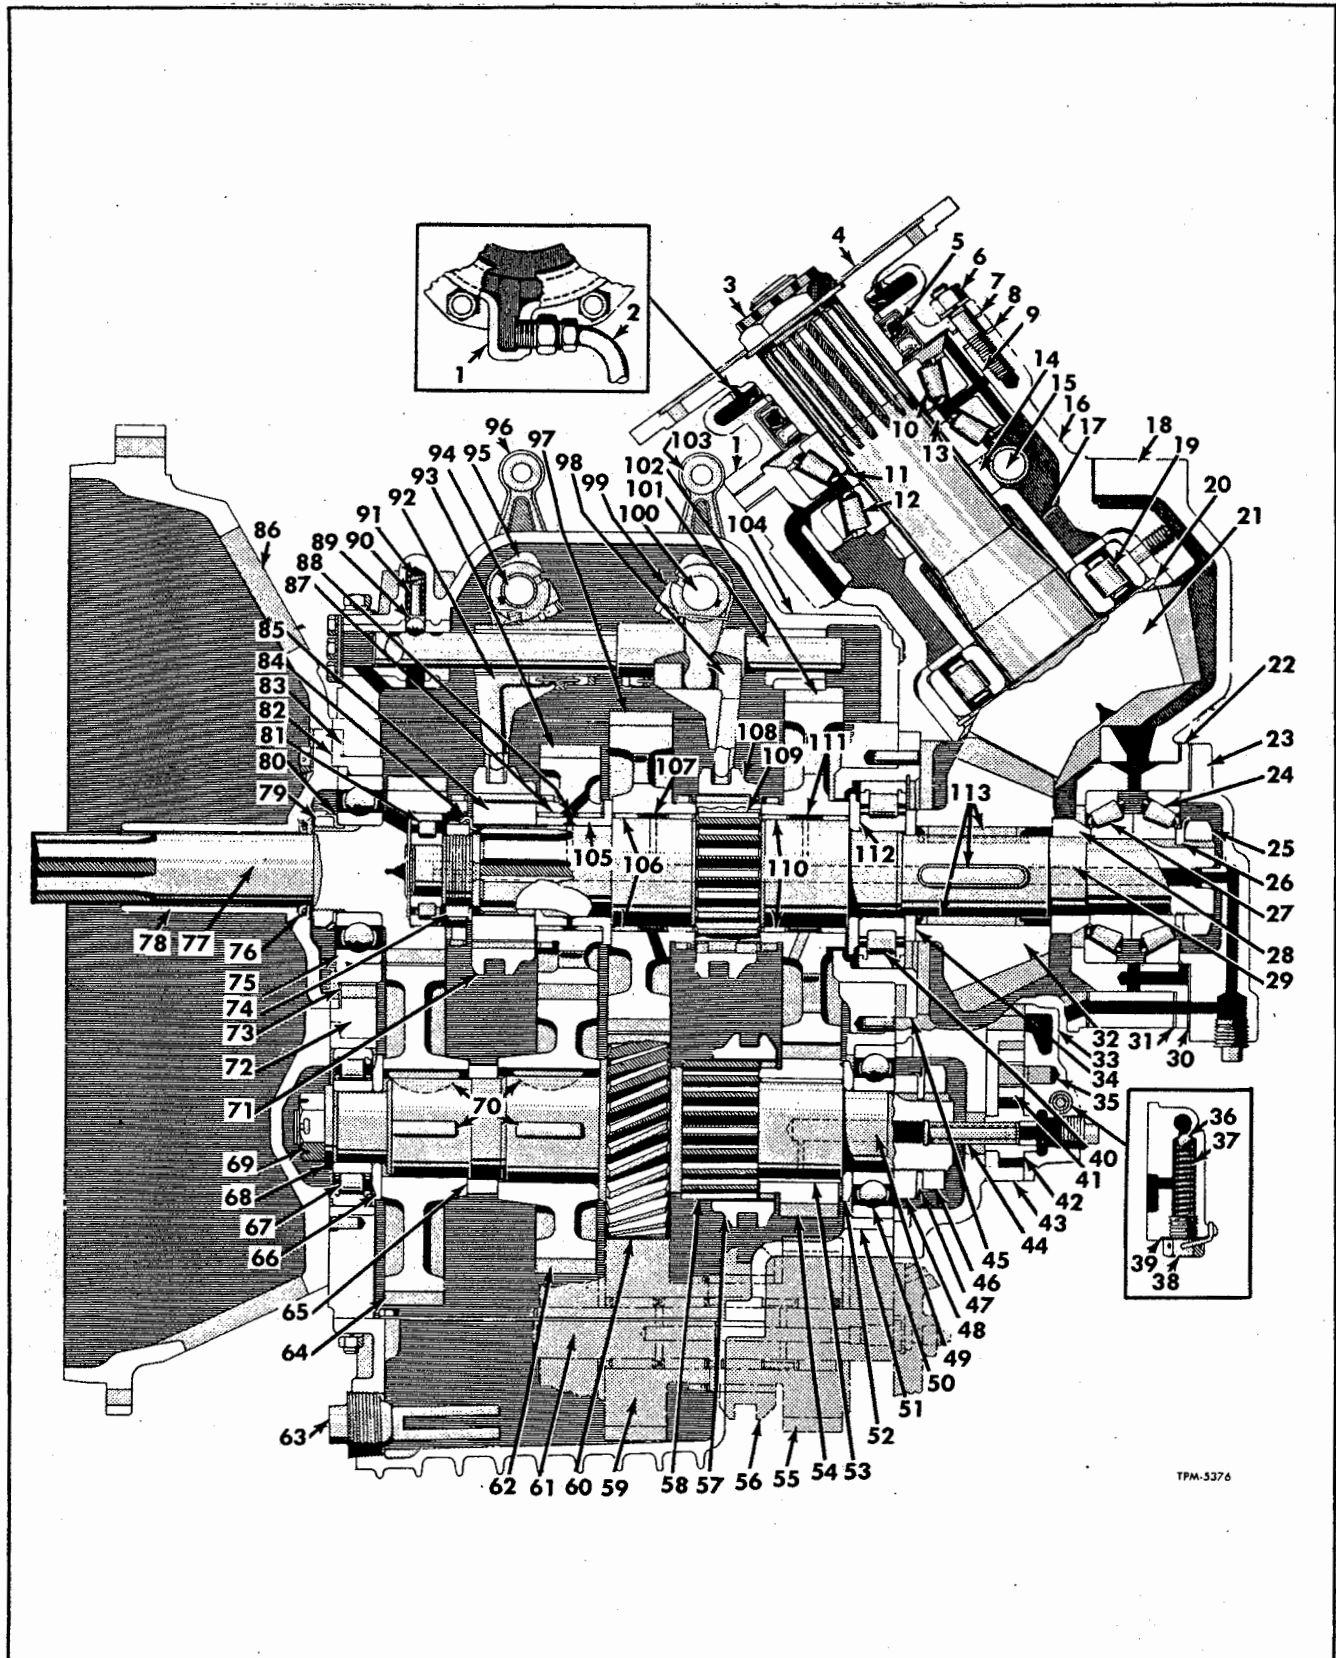

Figure 1—Sectional View of Transmission
Mechanical transmission (fig. 1), has four forward speeds and one reverse. All mainshaft, reverse idler, and countershaft gears have helical cut teeth and are in constant mesh. Interlocking (sliding) clutches with spur teeth on inner diameter slide on corresponding teeth on clutch gears.
Key numbers in text refer to figures 1 and 2.
Captions for Figures 1 and 2
1. Place gearshift lever in neutral position; then move transmission gears into neutral position by operating levers (96 and 103), (fig. 1).